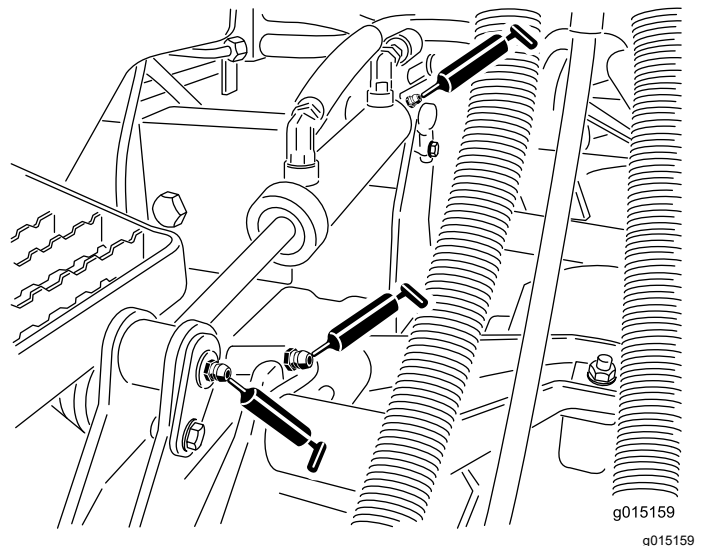

Figure 51
- Lift arm bushings (1 per cutting unit) (Figure 51)
- Lift cylinder bushings (2 per cutting unit) (Figure 51)